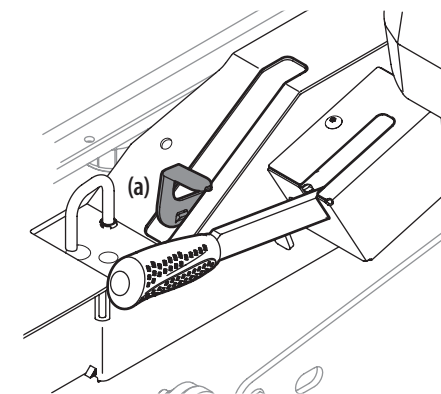

Figure 4-6
- Engage the transmission bypass valves by pulling the bypass lever (a) upward and all the way back. See Figure 4-6.